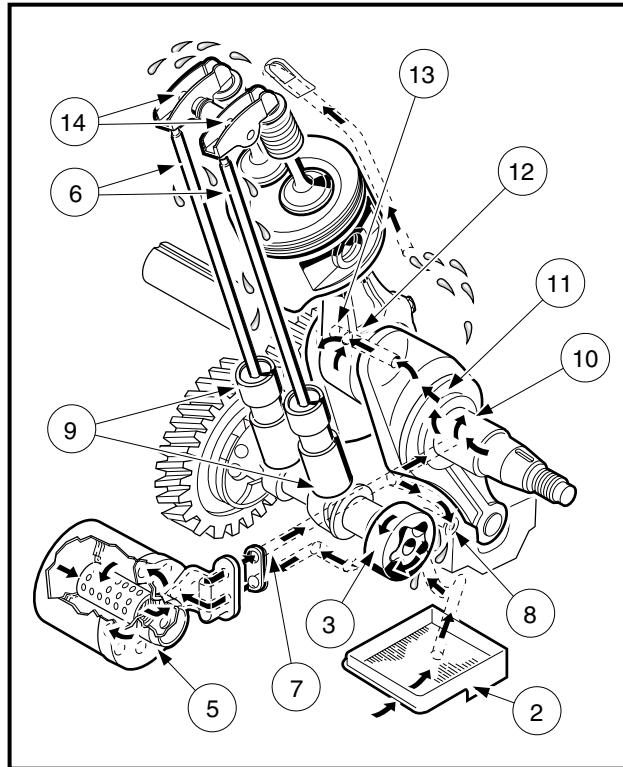
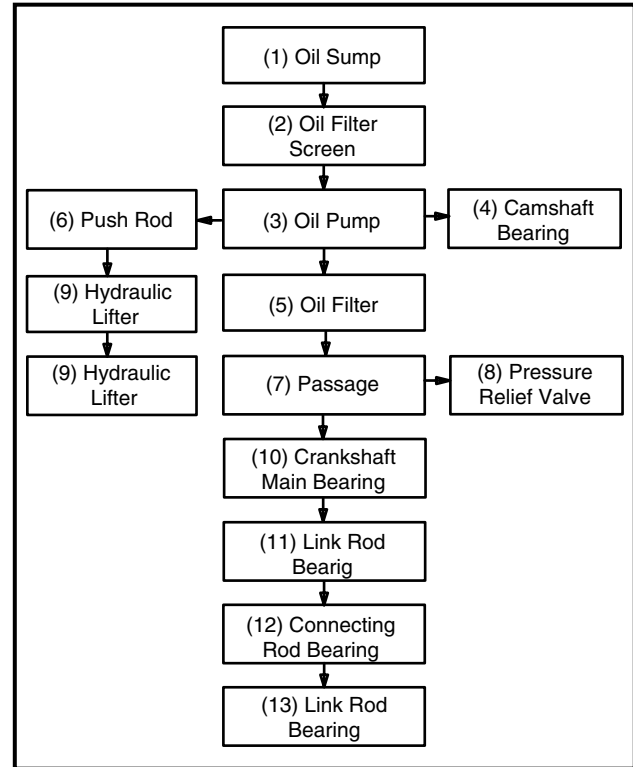
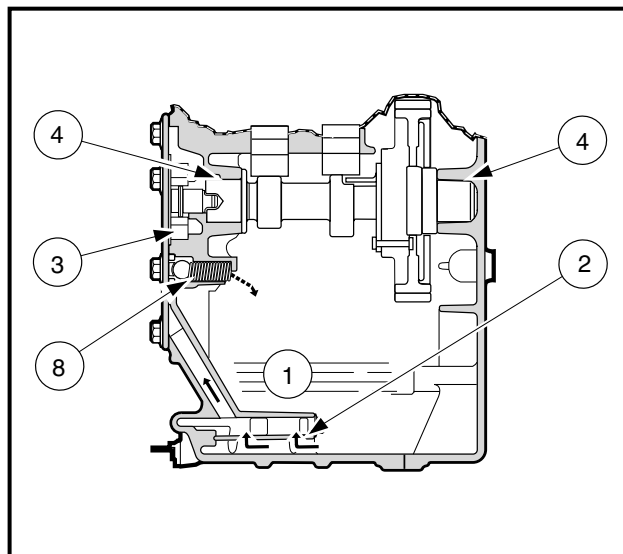

Figure 13-1 Lubrication System
Figure 13-2 Lubrication System Flow Chart
Figure 13-3 Cutaway View of Crankcase
FE350 and FE400 engines are equipped with hydraulic lifters and a pressurized lubrication system which consists of these components (**Figure 13-1, Page 13-6 and Figure 13-3, Page 13-6**):
- Inlet filter screen (2)
- Trochoid pump (3)
- Cartridge filter (5)
- Pressure relief valve (8)
The pump draws oil from the sump and forces it under pressure into the crankcase passages as shown (**Figures 13-2 and 13-3, page 6**). Oil can build up excess pressure in a lubrication system. To prevent build-up of excess oil pressure which could possibly force oil past the seals and damage the engine, the pump is fitted with a pressure relief valve (8) (**Figure 13-1, Page 13-6**) that is made of a ball and a spring. When the pressure increases beyond the pressure of the spring, the ball is forced off its seat against the spring pressure and excess oil is routed back into the sump (crankcase), thus relieving the pressure. When the pressure drops below the preset limit, the spring holds the ball against its seat to keep the oil from draining back into the sump (crankcase).
FE350 and FE400 engines are equipped with non-adjustable rocker arms (14) and hydraulic lifters (9) (Figure 13-1, Page 13-6). The purpose of hydraulic lifters is to automatically eliminate all valve clearance in the valve train. This zero-clearance condition ensures that the valve begins to open at precisely the same time during each valve event. However, to ensure good seating, there is a small amount of clearance present after the valve closes. This clearance is eliminated by the lifter before the valve is opened again. The installation of